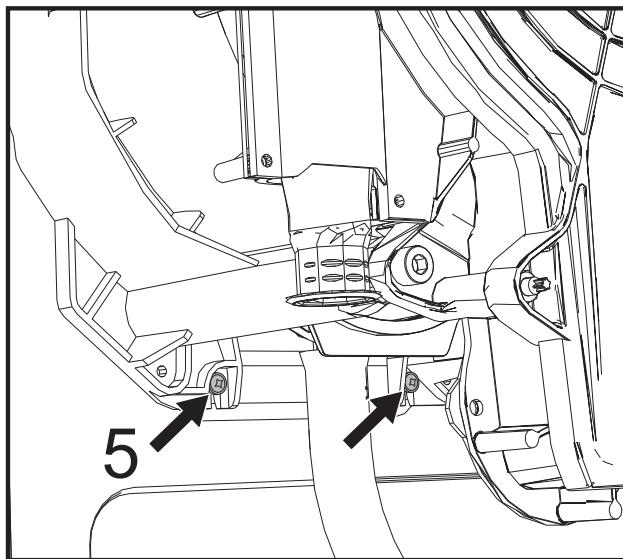

fig. 64
- Loosen the **2 bottom screws "5"** securing the exchanger to the frame (fig. 64).